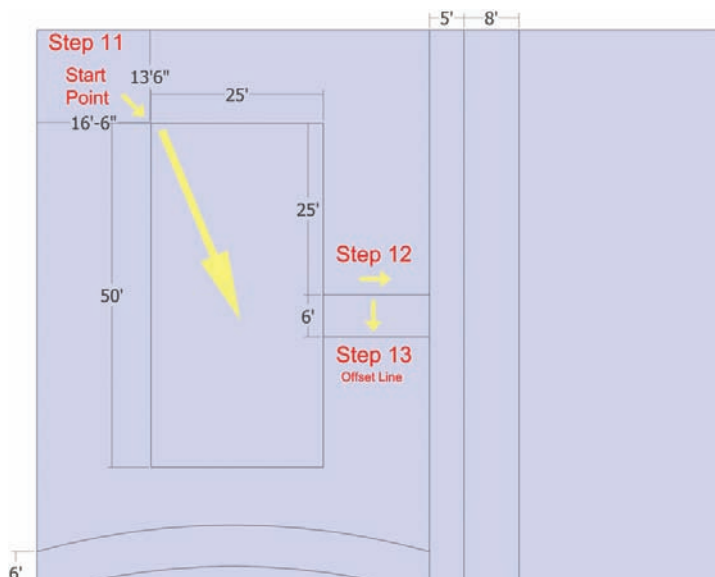

Fig. 6-9: Drawing the building footprint and building entry path.
11. Build a building footprint (Fig. 6-9).
12. Add a building entry path (Fig. 6-9).